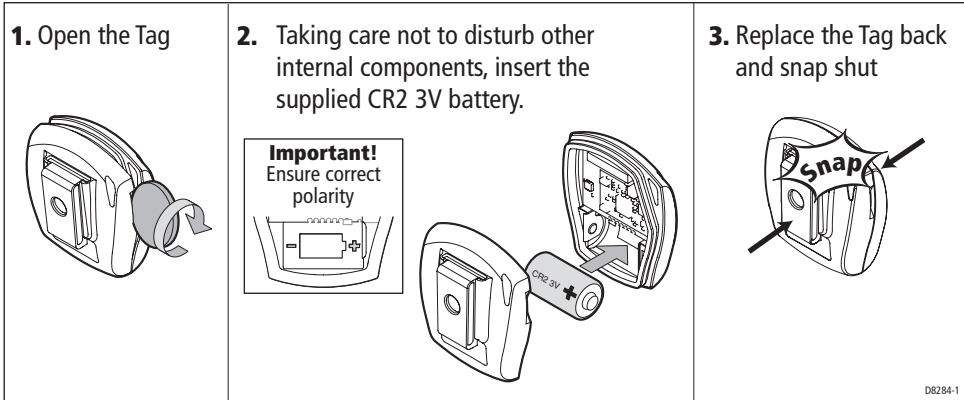

Figure 10 - Fitting Tag battery
Before you can use the Tags, you must fit a battery in each, as in *Figure 10*.
- Fit one of the non-rechargeable, lithium CR2 3V batteries into each Tag as detailed in *Figure 10*.